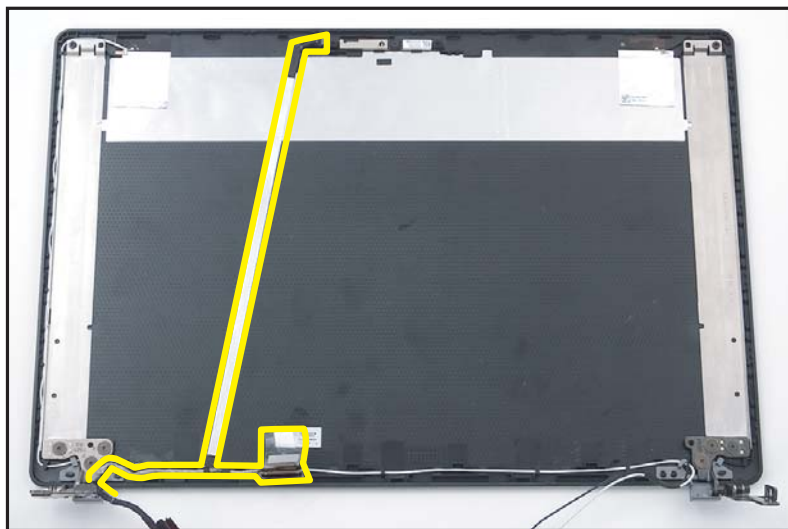

Figure 1-68. Replacing the eDP Cable
1. Route the eDP cable to the cable guides on the bottom side of the LCD cover first. Then continue to route and secure the eDP cable through the cable guides on the center of the LCD cover as shown in Figure 1-68.